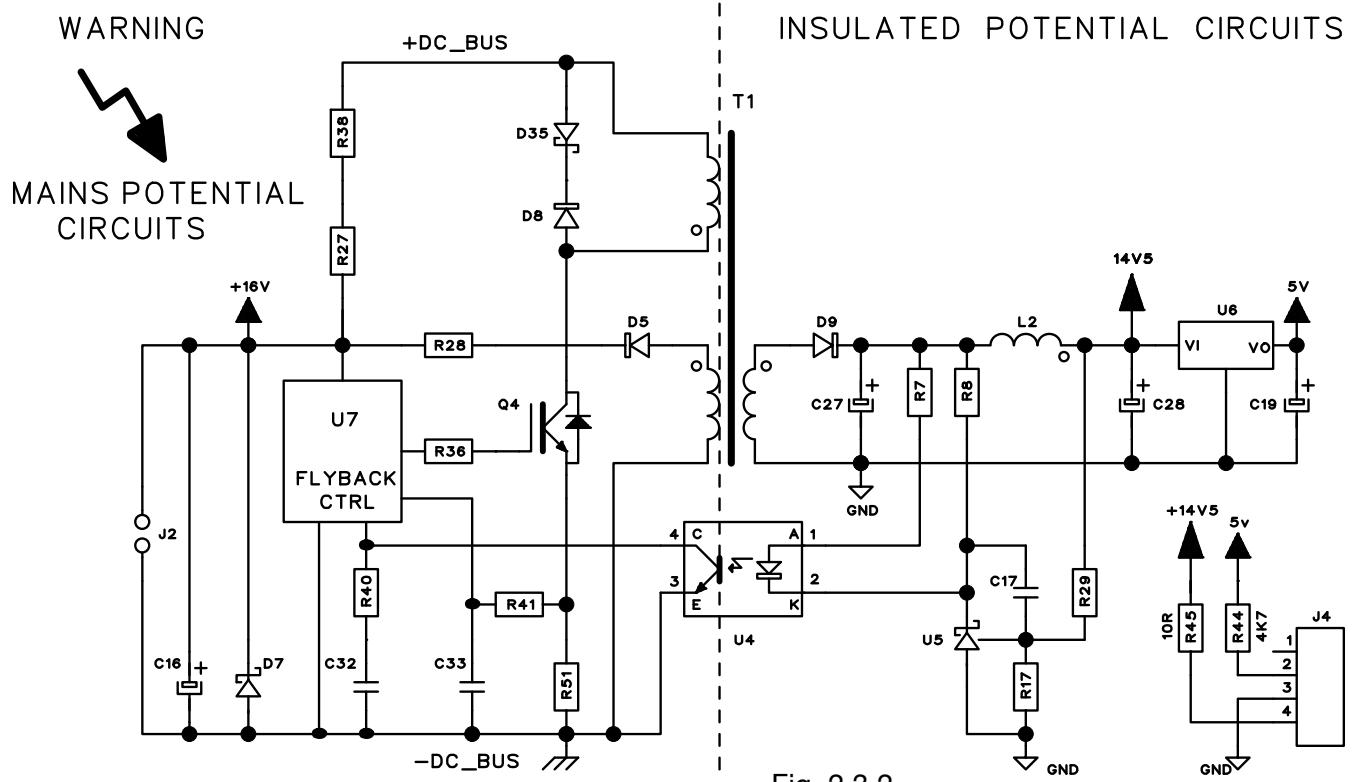

Fig. 2.3.2
These voltages are measurable on the connectors J2 and J4, on power board (13), as indicated in Fig. 2.3.2.
- ◆ If the voltage is not present, turn off the power source and make sure there is no interruption in the power board (13) input connections or in the boost converter inductor (10) connection or check the DC-capacitors terminals are not in short circuit. If the case look for the short circuit cause between the following components: boost converter (Q10 ÷ Q12, etc.), flyback circuit (U7, Q4, D8, D35, etc.), DC-capacitors, inverter igt and diodes (Q13 ÷ Q20, D24, D25, etc.). Replace them if necessary.
- ◆ If the voltage remains at 330 Vdc check the boost converter circuits (U2, Q7, Q10 ÷ Q12, D22, etc.) and the voltage on J2 of power board (13), as indicated in Fig. 2.3.2 (flyback and boost converter circuits power supply).
- Power board (13), connector J4, terminals:
- as indicated in Fig. 2.3.2 (power board (13) circuits power supply).
- ◆ Locate the faulty components, on power board (13) be based on diagram in Fig. 2.3.2 and Connectors map in par. 5.2.
- ◆ Replace power board (13).
- Replace power board (13).